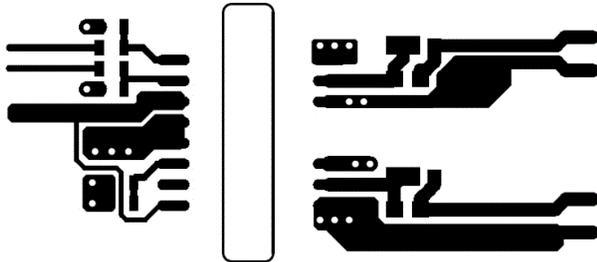
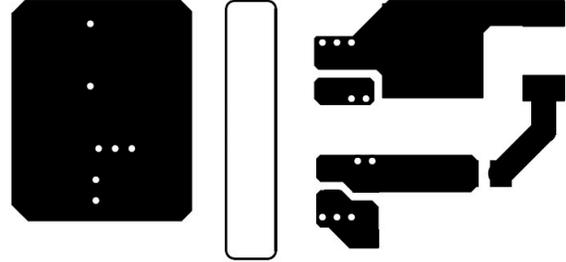

Figure 10-2. Top Layer Traces and Copper
Figure 10-3. Bottom Layer Traces and Copper
- Increasing the PCB copper connecting to VDDA, VDDB, VSSA and VSSB pins is recommended, with priority on maximizing the connection to VSSA and VSSB (see 図 10-2 and 図 10-3). However, high voltage PCB considerations mentioned above must be maintained.
Figure 10-2 and Figure 10-3 show top and bottom layer traces and copper.